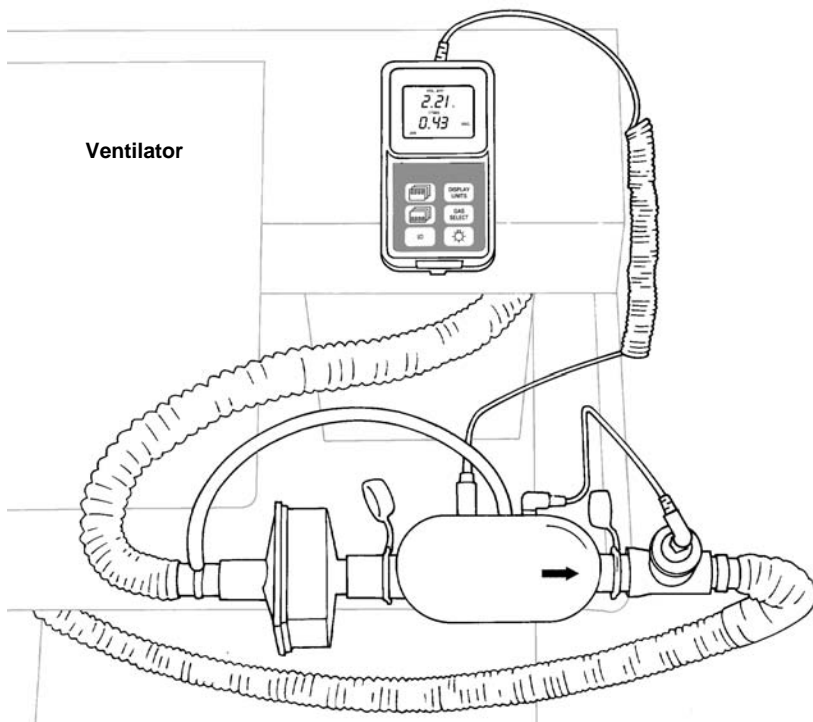
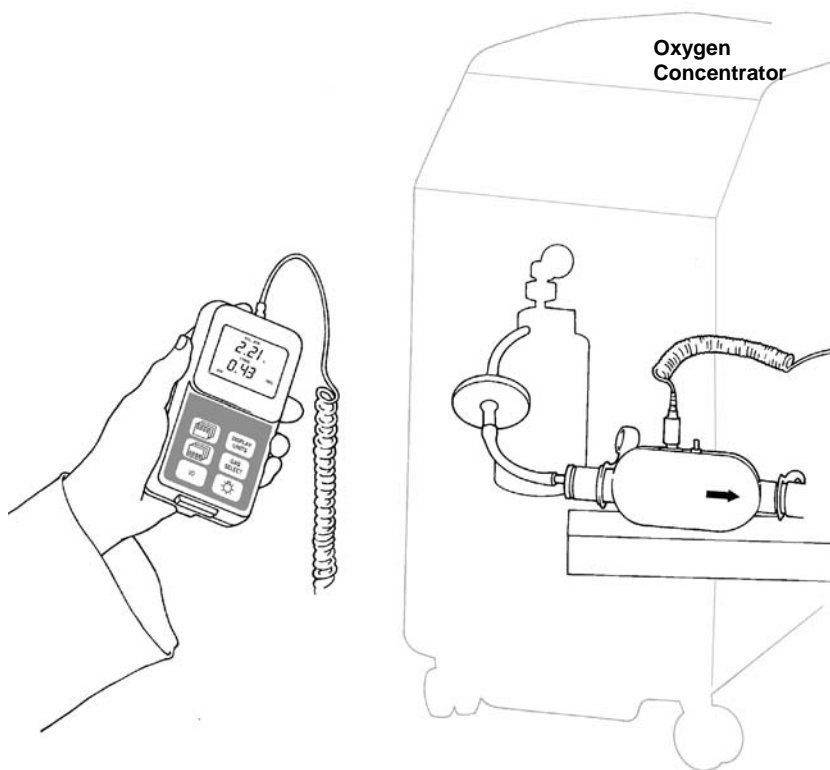

Figure 7. Installing a Flow Module into the Test Circuit
Figure 8. Certifier® FA Test System Installed in an Oxygen Concentrator Circuit
5. Install the flow module into the test circuit (**Figure 7, Figure 8**).